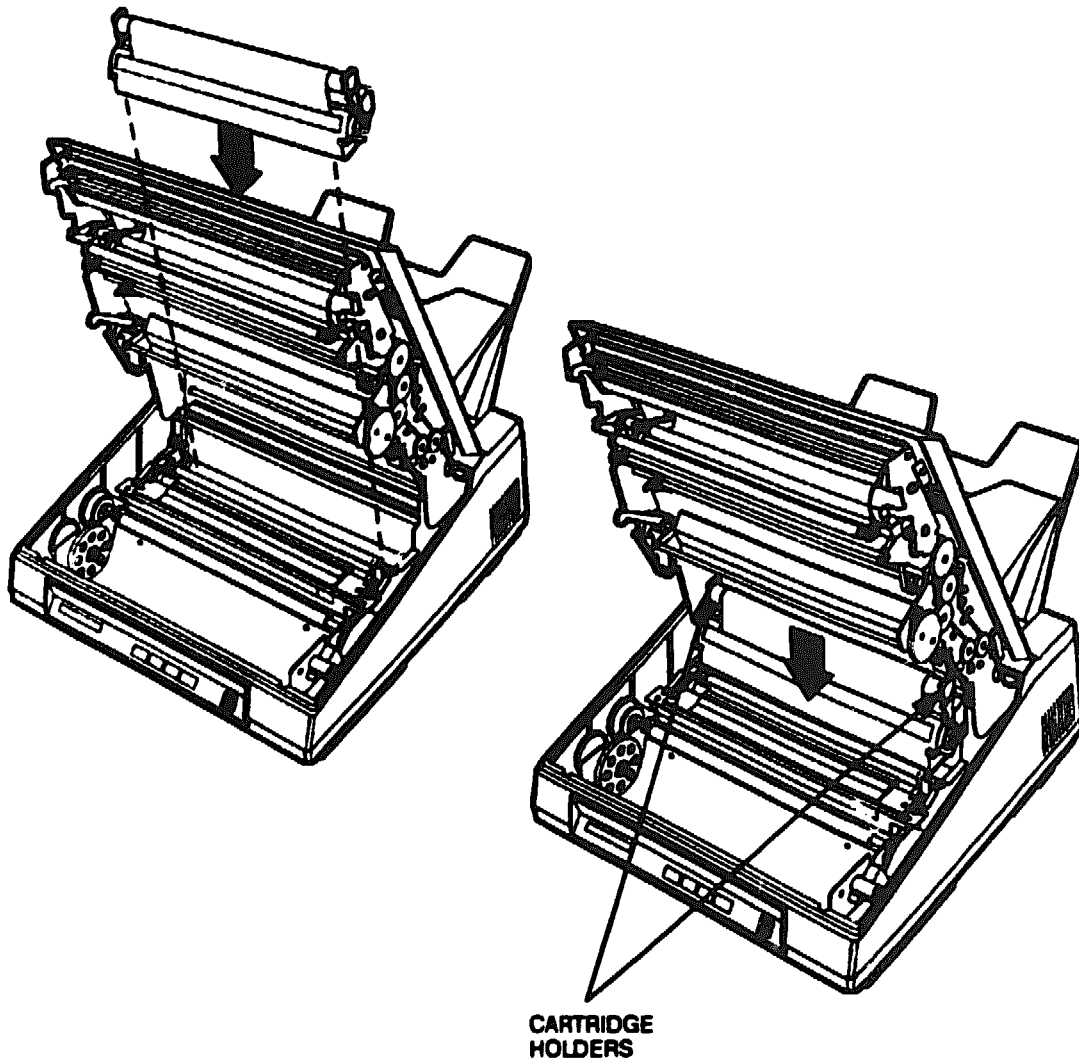

Figure 2-8 Installing the Supply Ribbon Cartridge
6. Place the new supply ribbon cartridge inside the printer. Press down slightly on the cartridge holders until both sides of the cartridge lock into place on the cartridge mounting blocks (see Figure 2-8).